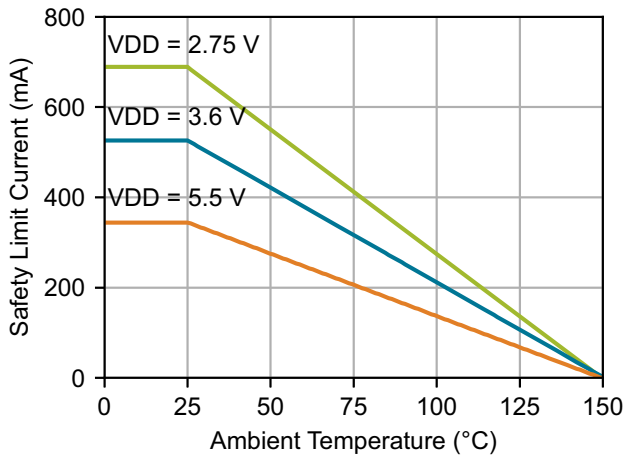
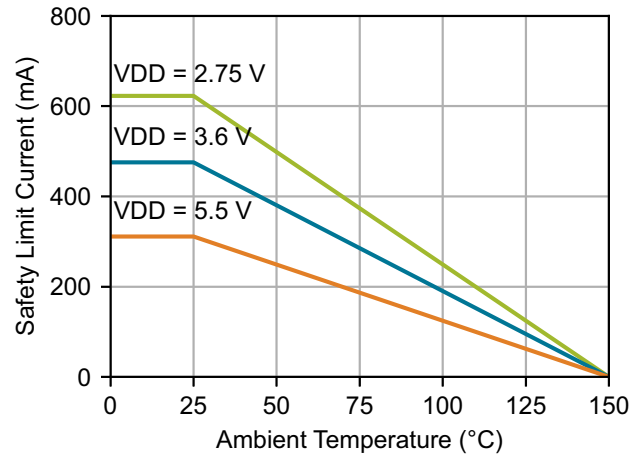
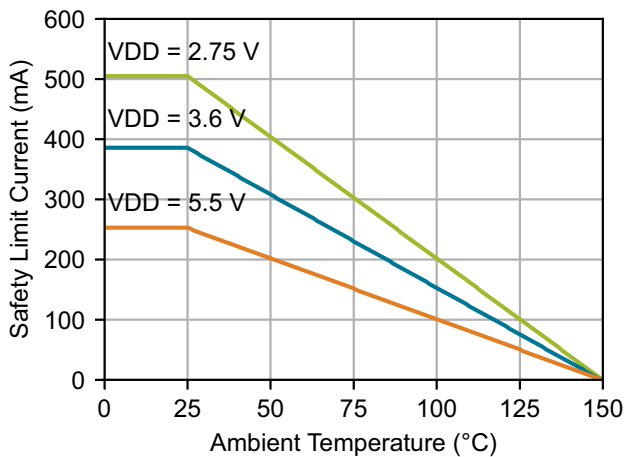
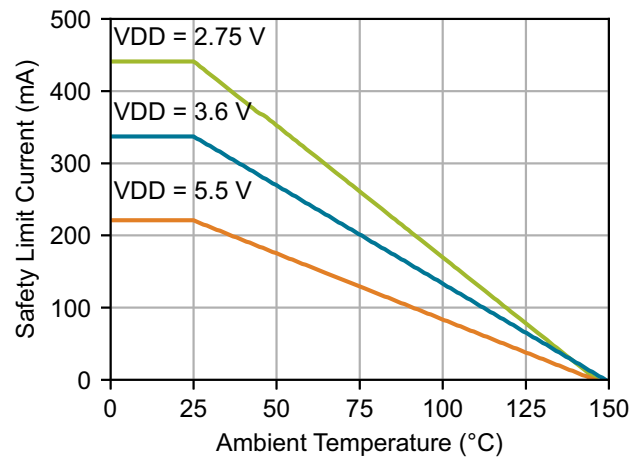

Figure 15. WB SOIC-16 Thermal Derating Curve, Dependence of Safety Limiting Current
Figure 16. QSOP-16 Thermal Derating Curve, Dependence of Safety Limiting Current
Figure 17. SSO-8 Thermal Derating Curve, Dependence of Safety Limiting Current
Figure 18. NB SOIC-8 Thermal Derating Curve, Dependence of Safety Limiting Current
1. Maximum value allowed in the event of a failure; also see the thermal derating curves in Figure 15 on page 21, Figure 16 on page 21, Figure 17 on page 21, and Figure 18 on page 21.